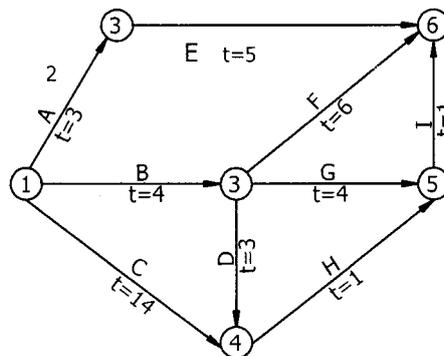

Fig. 1
- Q.1 A 30 cm diameter tube will completely penetrates an unconfined aquifer of depth 40 m. After a long period of pumping at a steady rate of 1500 lpm, the drawdown in two observation wells, 25 m and 75 m from pumping well were found to be 3.5 m and 2.0 m respectively. Determine the transmissivity of aquifer. What is drawdown at pumping well? (40)
- Q.2 250 liters/sec. of water is flowing in a pipe having a diameter of 300 mm. If the pipe is bent by a  $135^\circ$ , find the magnitude and direction of the resultant force on the bend. The pressure of water flowing is  $39.24 \text{ N/cm}^2$ . (40)
- Q.3 In a formation of cohesionless soil, the water table is at a depth of 3m. The degree of saturation may be taken as 0.5 on the average void ratio 0.5; grain specific gravity 2.70; angle of internal friction =  $30^\circ$ . Calculate the potential shear strength on a horizontal plane at a depth of 2.5m below the surface. Also calculate the modified value of the shear strength if the table reaches the ground surface. (40)
- Q.4 A strip footing 1 m wide at its base is located at a depth of 0.8 m below the ground surface. The properties of the foundation soil are  $\gamma = 18 \text{ kN/m}^3$ ,  $c = 30 \text{ kN/m}^2$ , and  $\phi = 20^\circ$ . Determine the safe bearing capacity, using factor of safety 3.0. If the water table is located at the base of the footing. Considering saturated unit weight of soil as  $19.5 \text{ kN/m}^3$ . Find safe bearing capacity using Terzaghi's analysis and assuming that the soil fails by local shear. ( $N_c' = 11.8$ ,  $N_q' = 3.9$  and  $N_\gamma' = 1.7$ ) (40)
- Q.5 Explain in detail California Bearing Ratio (CBR) method for the design of Flexible Pavement. (40)
- Q.6 Write the physical, chemical and biological properties of wastewater/sewage and in detail explain with the help of a flow sheet the various units and their role in a basic aerobic wastewater treatment plant. (40)
- Q.7 The network shown in Fig. 1 has the estimated duration for each activity marked. Determine the total float for each activity and establish the critical path. Also determine free float and independent float for each activity. (40)